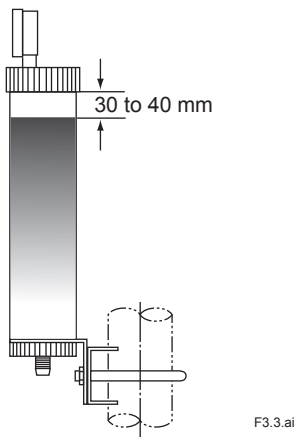

Figure 3.3 Maximum KCl Replenishment Level
- (3) Remove the nut fixing the reserve tank cap and remove the cap.
- (4) Refill the tank with 3.3 mol/L KCl solution (see Figure 3.3). The maximum solution level 30 to 40 mm lower than the top.